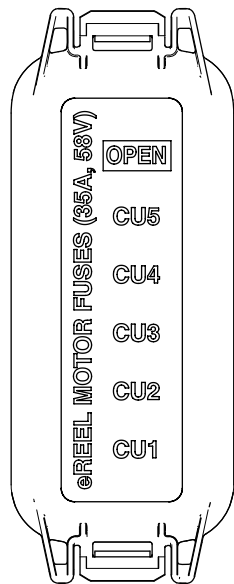

Figure 106
2. Unlatch the seat base, tilt the seat base open, and support it with the prop rods (Figure 106).